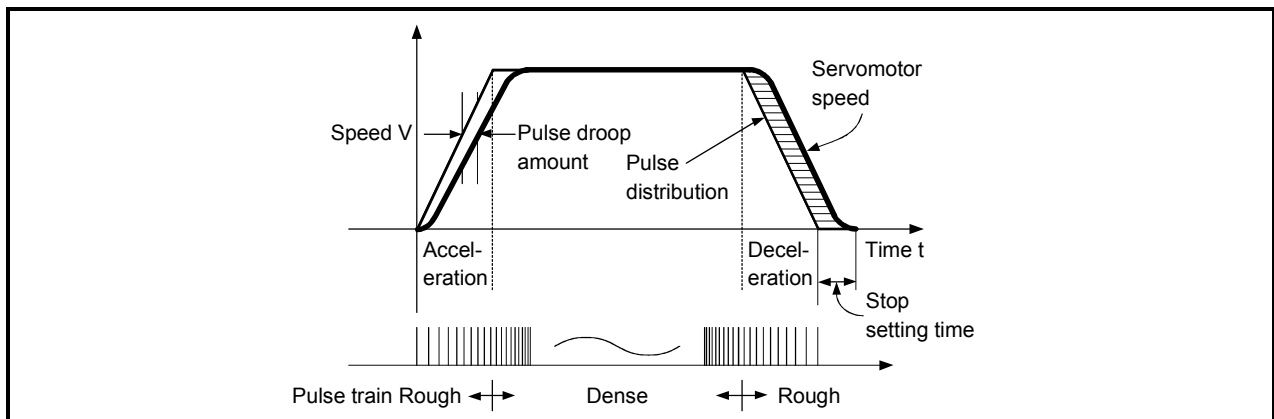

Fig. 1.3 QD70D output pulses
- 1) As shown in Fig. 1.3, the pulse frequency increases as the servomotor accelerates. The pulses are sparse when the servomotor starts and more frequent when the servomotor speed comes close to the target speed.